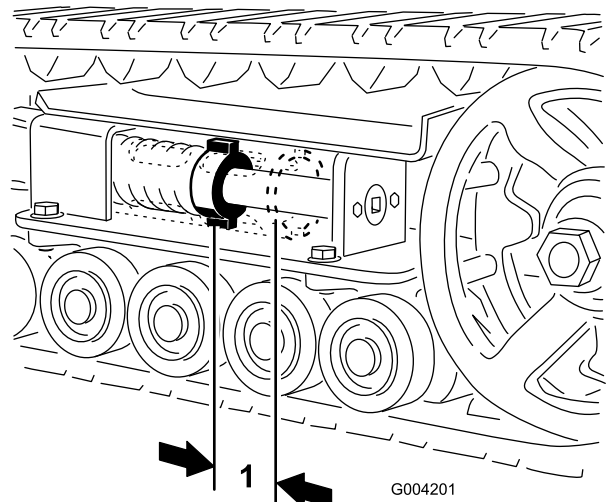
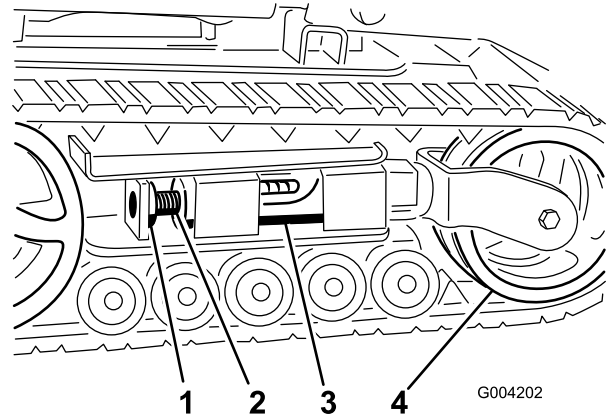
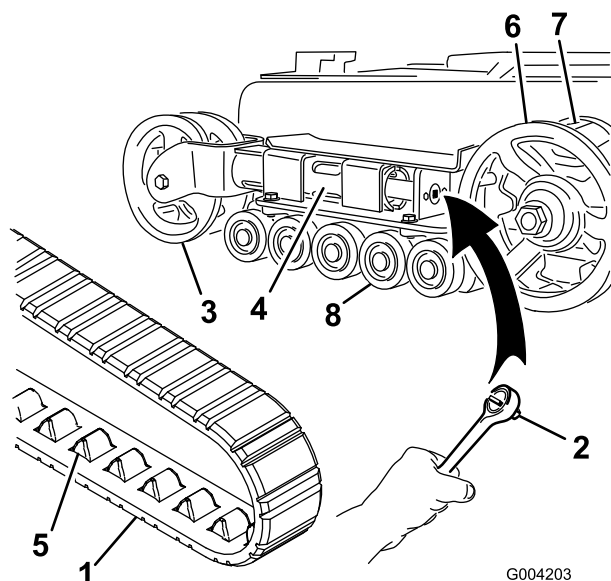
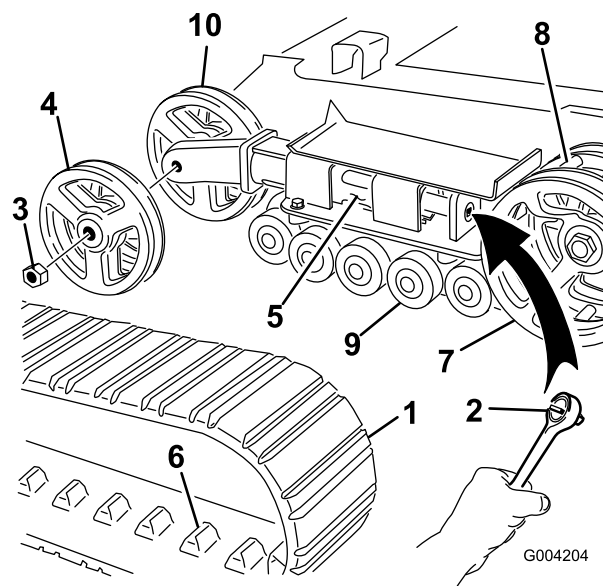

Figure 40
Figure 41
Figure 42
Figure 43
There should be 2-3/4 inches (7 cm) between the tension nut and the back of the tension tube (Figure 40). If not, adjust the track tension using the following procedure:
3. Remove the locking bolt and nut (Figure 41).
4. Using a 1/2 inch drive socket wrench (Figure 42), turn the tensioning screw counter-clockwise until the distance between the tension nut and the back of the tension tube (Figure 40) is 2-3/4 inches (7 cm).
5. Align the closest notch in the tension screw to the locking bolt hole and secure the screw with the locking bolt and nut (Figure 41).
4. Using a 1/2 inch drive socket wrench, release the drive tension by turning the tensioning screw clockwise (Figure 41 and Figure 42).
5. Push the tension wheel toward the rear of the unit to move the tension tube against the frame (Figure 42). (If it does not touch the frame, continue turning the tensioning screw until it does.)
7. When the track is off of the tension wheel, remove it from the drive sprocket and road wheels (Figure 42).
8. Beginning at the drive sprocket, coil the new track around the sprocket, ensuring that the lugs on the track fit between the cogs on the sprocket (Figure 42).
9. Push the track under and between the road wheels (Figure 42).
11. Turn the tensioning screw counter-clockwise until the distance between the tension nut and the back of the tension tube (Figure 40) is 2-3/4 inches (7 cm).
4. Using a 1/2 inch drive socket wrench, release the drive tension by turning the tensioning screw clockwise (Figure 41 and Figure 43).
5. Push the tension wheel toward the rear of the unit to move the tension tube against the frame (Figure 43). (If it does not touch the frame, continue turning the tensioning screw until it does.)
6. Remove the nut securing the outer tension wheel and remove the wheel (Figure 43).
7. Remove the track (Figure 43).
8. Remove the nut securing the inner tension wheel and remove the wheel (Figure 43).
12. Install the inner tension wheel and secure it with the nut removed previously (Figure 43).
14. Install the new track, ensuring that the lugs in the track fit between the cogs in the middle of the drive sprocket (Figure 43).
15. Install the outer tension wheel and secure it with the nut removed previously (Figure 43).
17. Turn the tensioning screw counter-clockwise until the distance between the tension nut and the back of the tension tube (Figure 40) is 2-3/4 inches (7 cm).